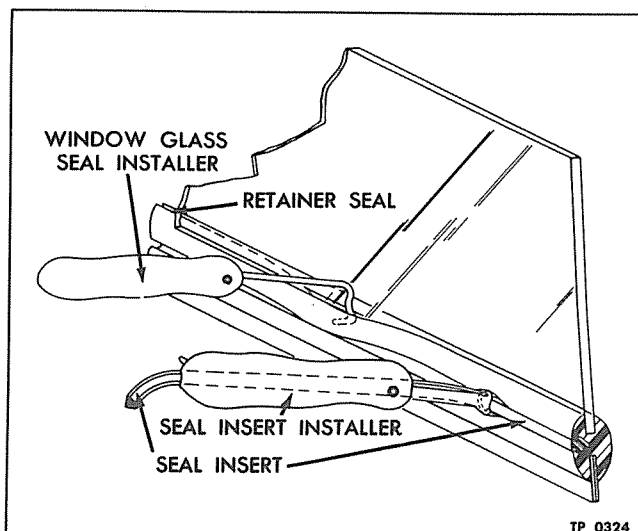

Figure 6—Installing Glass Retainer Seal and Insert
Although possible to install retainer and seal insert without use of special tools, tools listed in "Special Tools" at end of this section, are recommended to facilitate installation (fig. 6).
6. Position glass to seal, insert end of retainer seal installer (fig. 6) in seal groove and move tool along edge of glass forcing outer lip of seal over glass. Use large installer (hook) (part of CS-1154-A) for all except rear window. For rear window use special installer (hook) CS-1154-12.